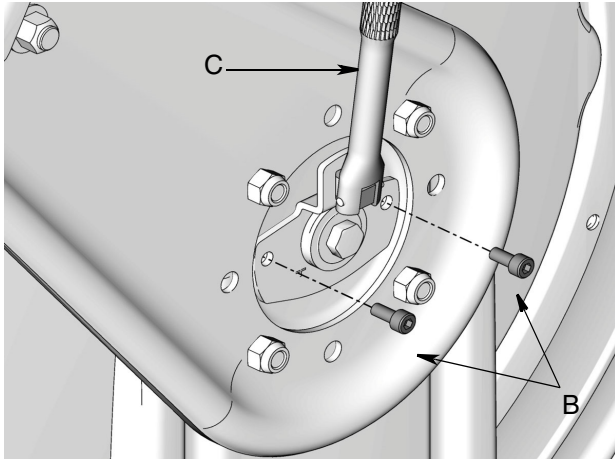

FIG. 12
3. Insert ratchet (C). Then remove screws (B) (FIG. 12).